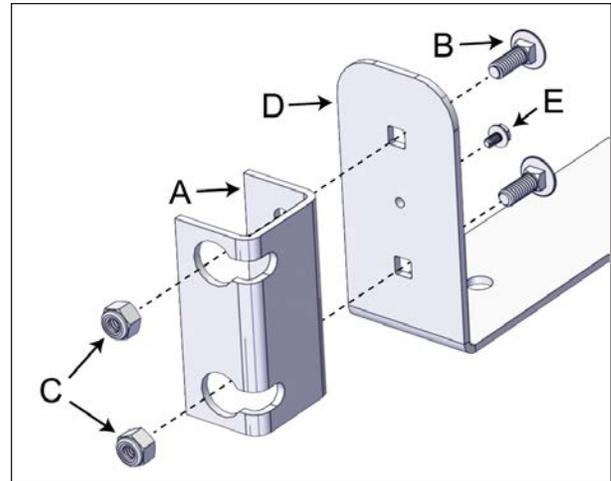

FIGURE 22: SPA ENTRANCE U-FRAME LINK AND METAL COUPLER
12. Install one unpainted metal coupler on each end of the spa entrance U-frame link, see Figure 22.
13. Align one coupler with the holes on each end of the spa entrance U-frame link. Fasten with the provided 1/4" x 3/4" carriage bolts and 1/4" nylon-insert lock nuts using the 7/16" (11 mm) socket wrench and spanner. There is one metal coupler per side, see Figure 22.
14. Insert an 8-32 x 3/8" Hex slotted thread-cutting screw in the center hole on each end of the spa entrance U-frame link, see Figure 22.